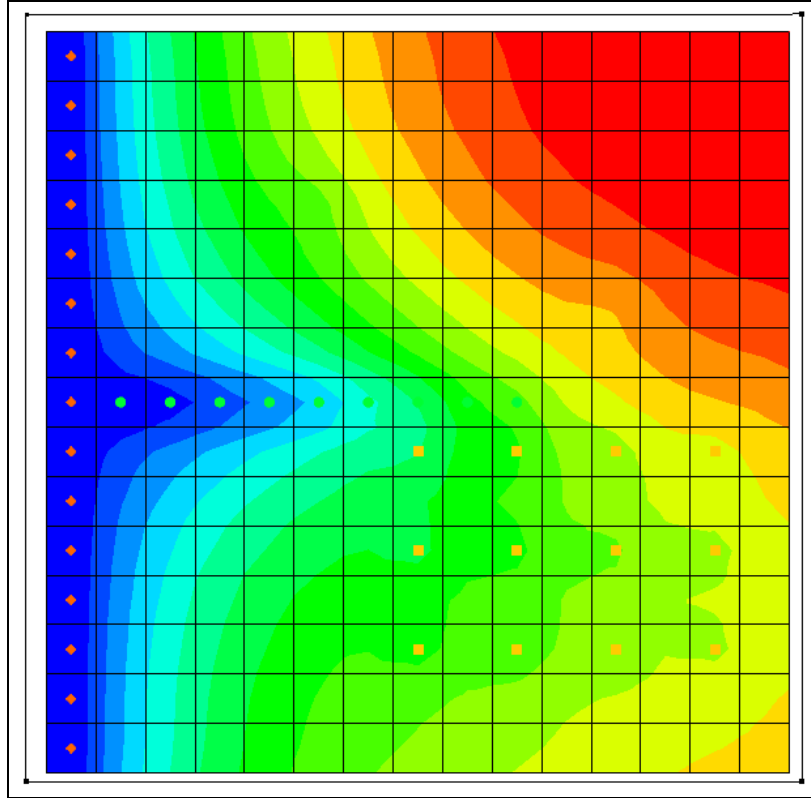

Figure 7 Creating a polygon that encompasses the model grid
2. Using the **Create Arc**  tool, create an arc that surrounds the grid. End the arc on the starting point by double-clicking in order to form a closed polygon, as shown in Figure 7.